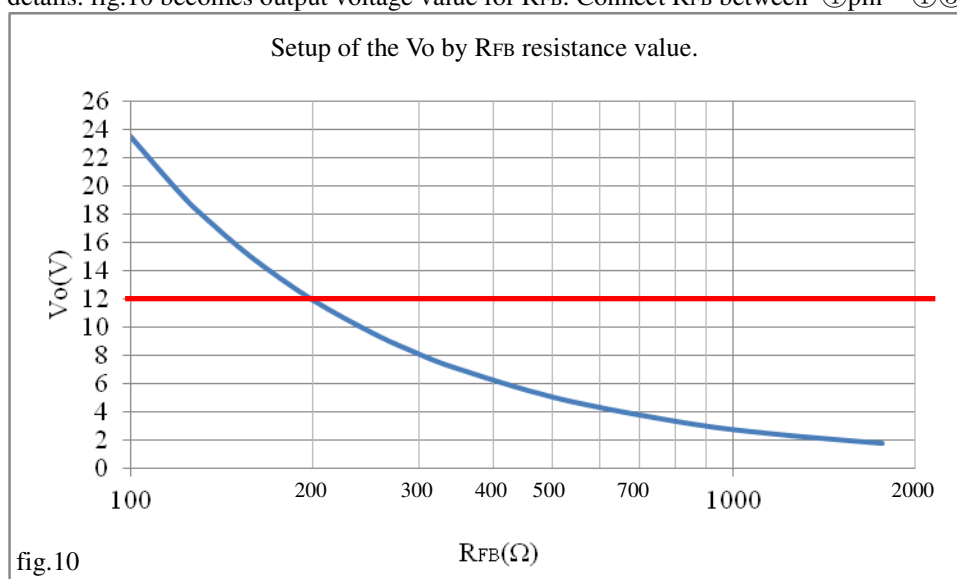

fig.10
As for details, please refer to the fig.10.
•With MPM01/04, An output voltage  $V_o$  can be set up by adjusting  $R_{FB}$ . Refer to an application notebook for the details. fig.10 becomes output voltage value for  $R_{FB}$ . Connect  $R_{FB}$  between ④pin - ①③pin at shortest.